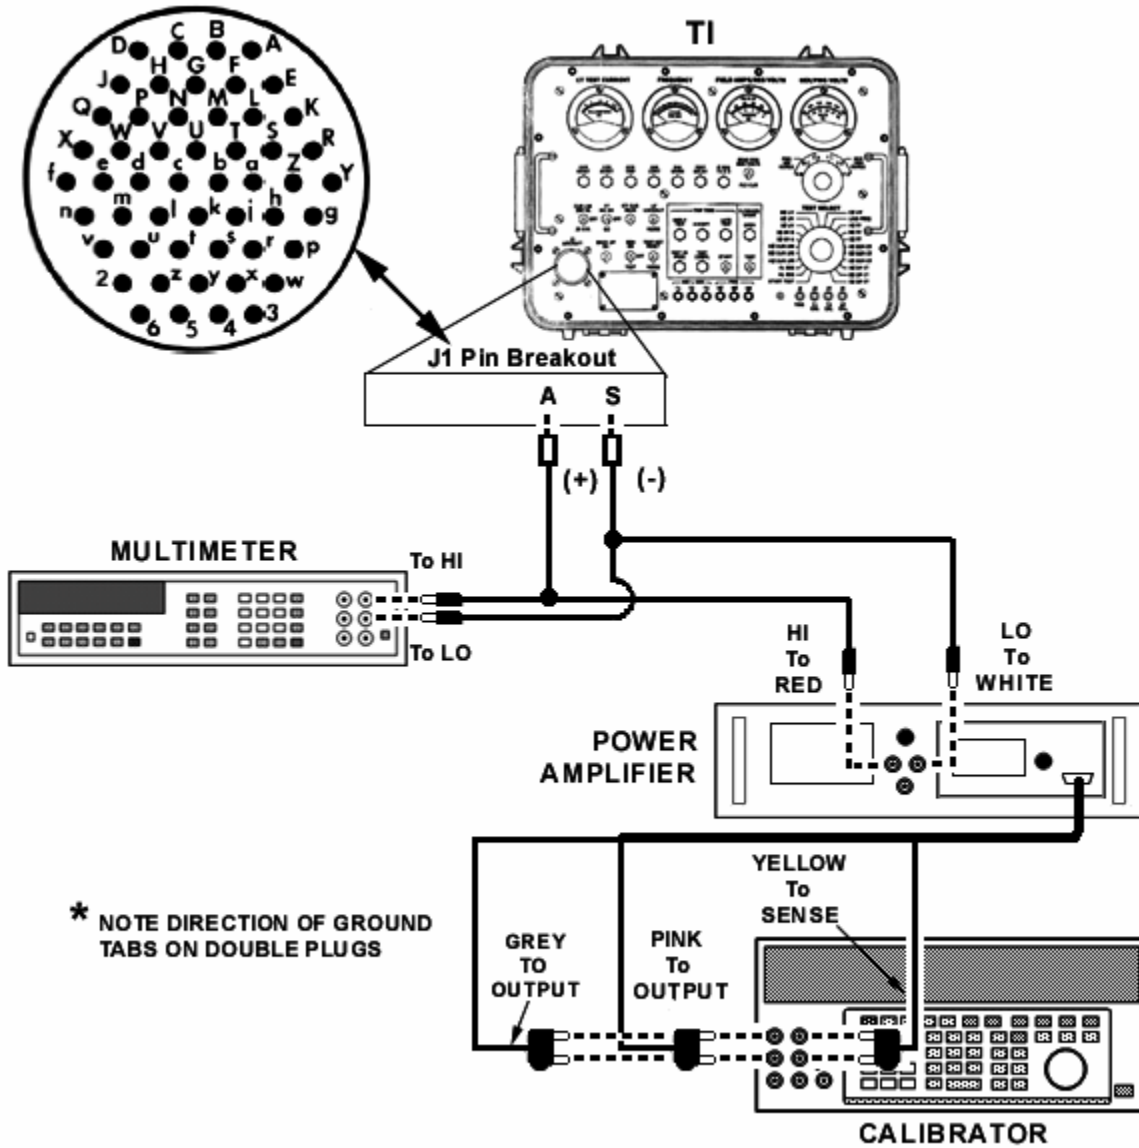

Figure 1. Power source - equipment setup.
c. Connect equipment as shown in figure 1.